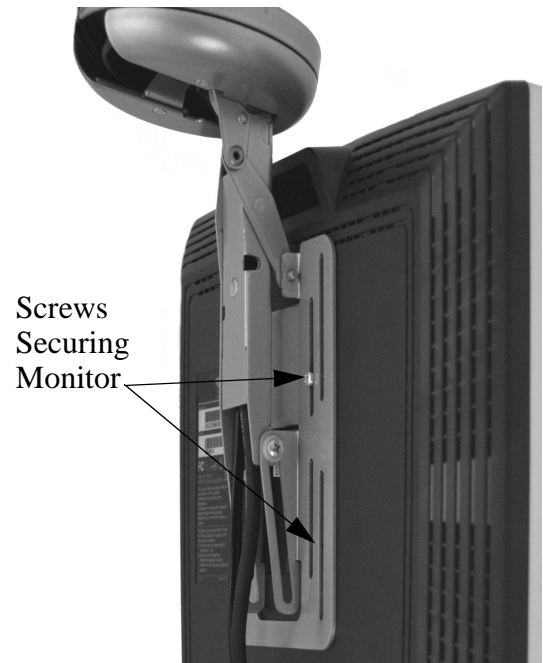

Figure 4. Loosen/Tighten Screws Securing Monitor
1. Using a screw driver, slightly loosen the screws (40 or 50) securing the display panel to the mounting bracket (see Figure 4).